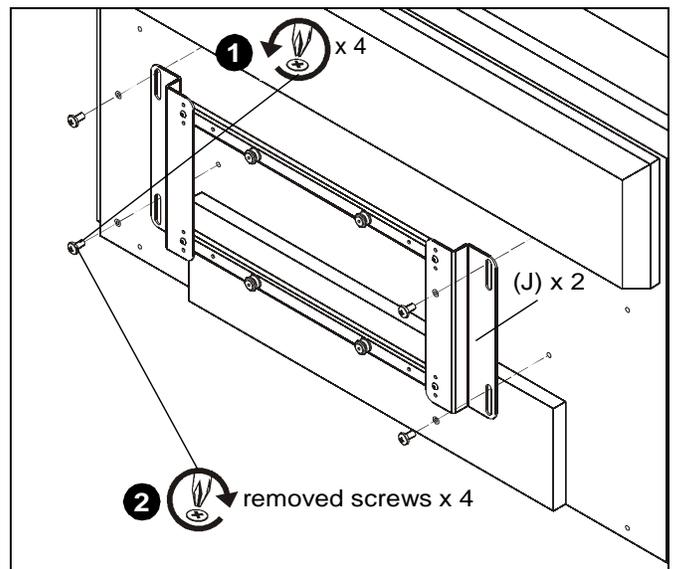

Figure 9
1. Remove the four mounting screws and washers that came installed on the back of the display. (See Figure 9)
2. Use four removed screws and washers to attach side brackets (N) to display. (See Figure 9)